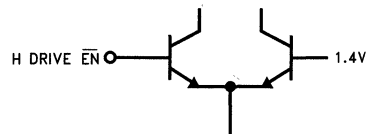

FIGURE 11
**H DRIVE  $\bar{E}N$  (Pin 15):** Horizontal Drive Enable. This pin turns the Horizontal Drive Output on and off with a TTL level signal, with low on and high off. See *Figure 11* for the input schematic.